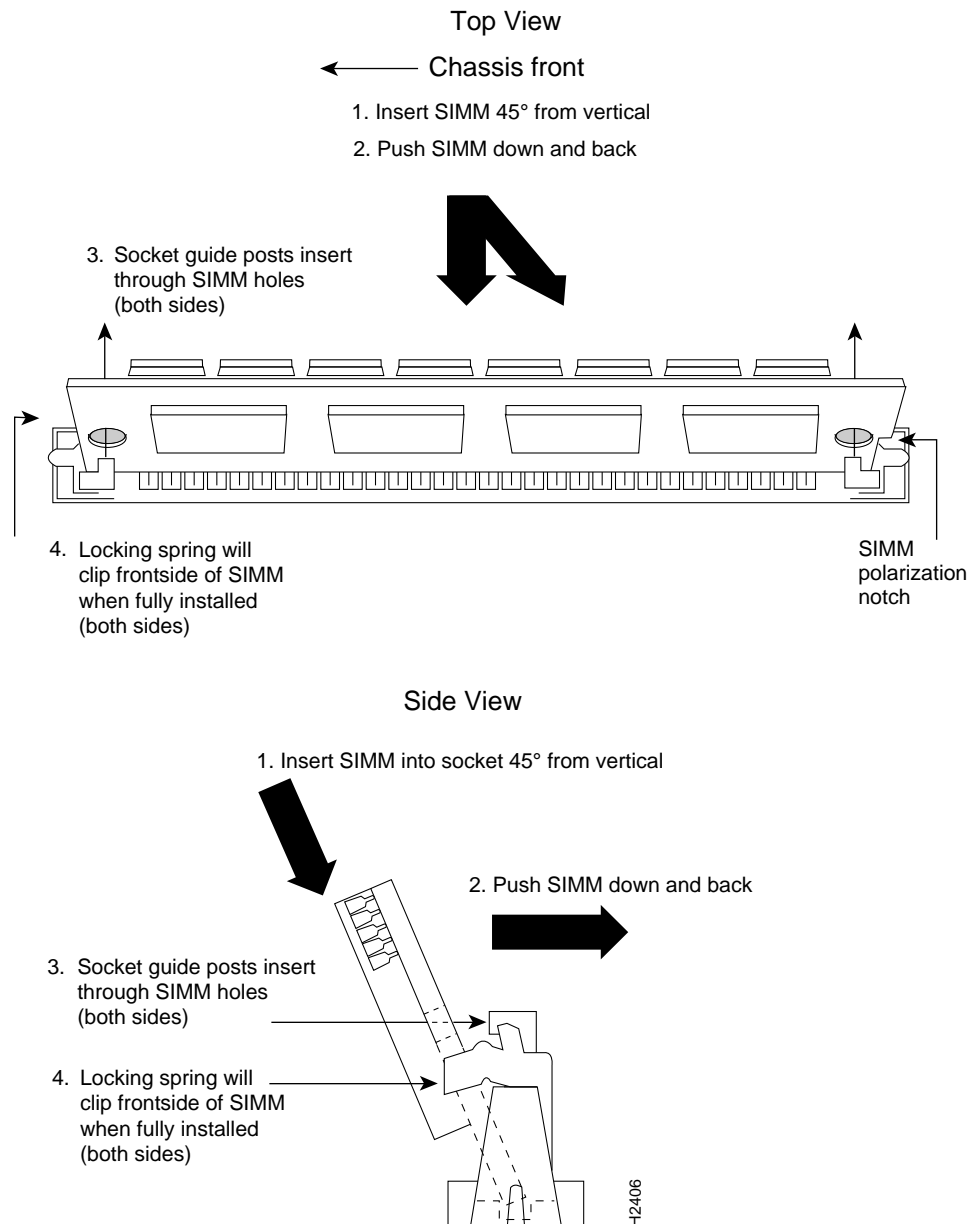

Figure 13 Installing Main Memory SIMMs in the Cisco 4000-M
- Step 3** Beginning with the SIMM nearest the edge of the motherboard on the Cisco 4000, insert the main memory SIMM at a 45-degree angle and rock it into its vertical position. (See Figure 13.) When the SIMM is properly seated, the socket guide posts will insert through the alignment holes, and the connector springs will click into place. Use the minimum amount of force required.
Step 4 Check the alignment of each SIMM to make sure that it is straight and that the alignment holes are lined up with the plastic tabs on the socket. (See Figure 13.)